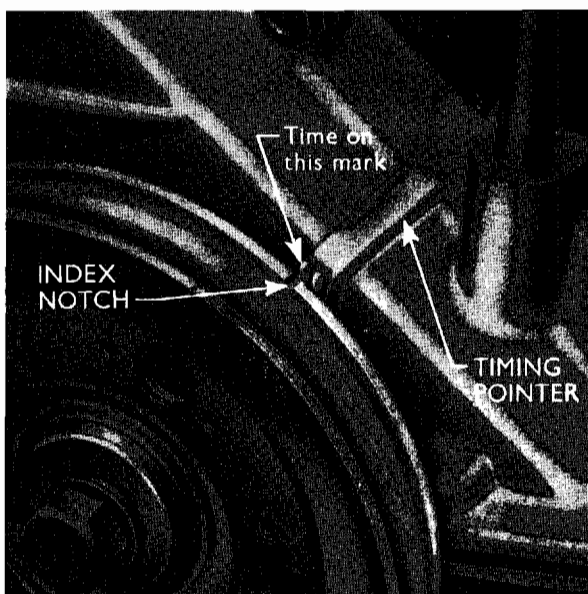

Fig. 11
**1. Set the engine**, with the upper (inner) timing mark on the timing cover in line with the notch in the crankshaft pulley as No. 1 piston comes up on the compression stroke (see Fig. 11).
(c) The static advance of 10° before T.D.C. is "built in" to the engine and when No. 1 cylinder is on the compression stroke and the notch on the crankshaft pulley aligns with the upper (inner) timing mark on the timing cover (see Fig. 11) the crankshaft
Continue turning the engine until the notch on the crankshaft pulley is in line with the upper (inner) timing mark on the timing cover (see Fig. 11).
**6. Point the timing light at the timing indicator.** Check that the upper (inner) indicator and the notch on the pulley are in line (see Fig. 11).